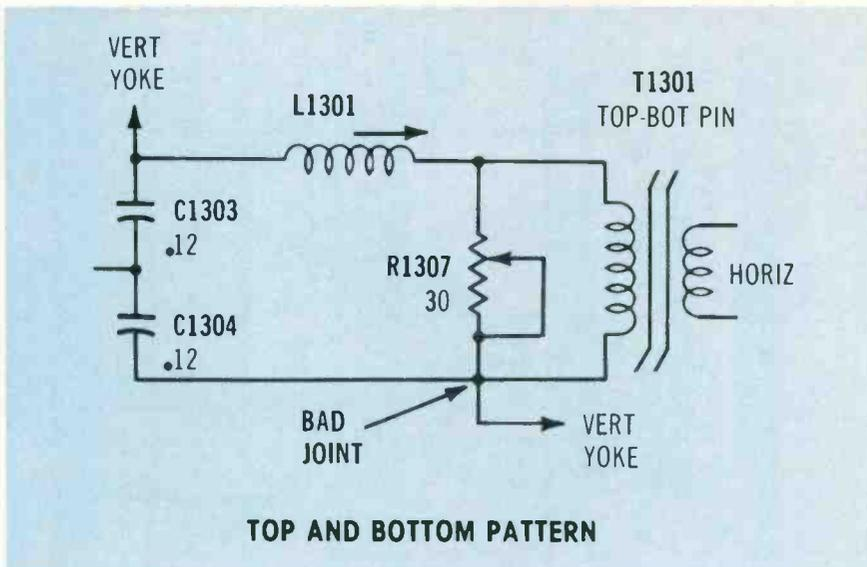
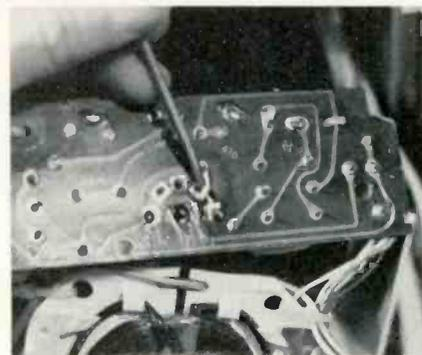

Figure 2 A bad soldering joint in this 25EC58 Zenith pincushioning circuit produced the peculiar pattern shown in Figure 1.
Figure 3 Location of the bad joint at T1301 is pointed out by the screwdriver blade.
Figure 5 (A) All four traces have the same phase. Top trace is the Q407 collector signal (same as W11 in Figure 2). Second trace shows the Q100 B/E waveform. Its rising edge occurs simultaneously with that in the driver waveform. However, the falling edge lingers longer than the driver edge that produced it. This is W12 in Figure 2. Trace 3 is the Q100 collector current, and Trace 4 shows the HV pulses from the flyback. (B) These waveforms contrast the T101 secondary waveform (top trace) with the Q100 B/E waveform (bottom trace). The T101 secondary waveform shows the primary waveshape with parts of the Q100 base waveform added.
This particular defect was caused by a cracked soldering joint in the top/bottom pincushion circuit (see Figure 2 schematic) located on a circuit board that was mounted on top of the deflection yoke. The bad joint is pictured in Figure 3.
An incorrect line appeared in the Figure 2 schematic on page 26 in *Electronic Servicing* for January, 1980. Please delete the line marked in this partial schematic.